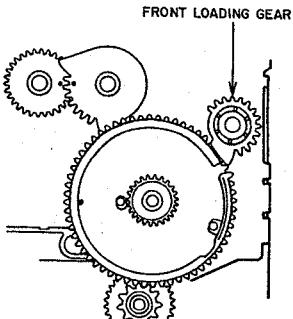
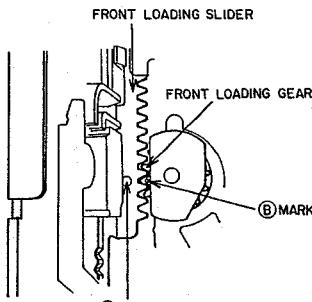

Fig. 3-10
Fig. 3-11
3) Attach the FRONT LOADING GEAR as shown in Fig. 3-10 and align the ④ mark on the FRONT LOADING GEAR with the ⑤ hole of the FRONT LOADING SLIDER as shown in Fig. 3-11.